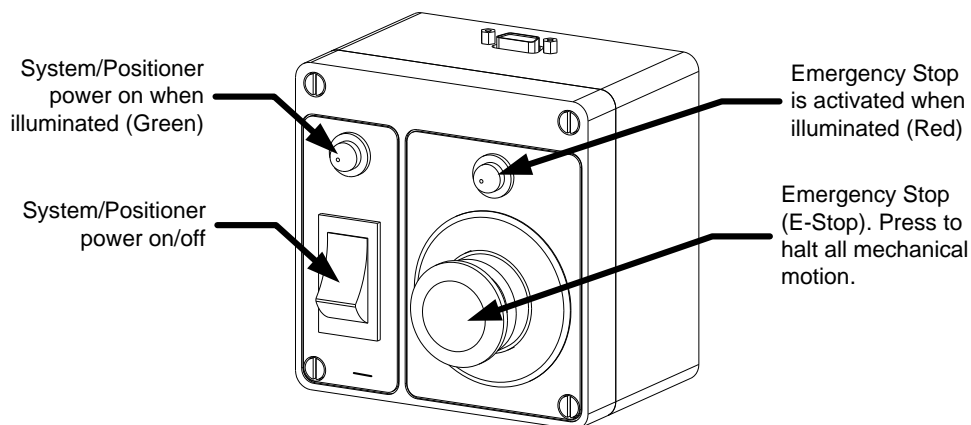

Figure 13. Power Box in Control Room
3. Power up the system. On the remote power panel (located in Control Room), hold the toggle switch in the ON ("I") position for approximately 1 second until the green power lamp illuminates (**Figure 13**).